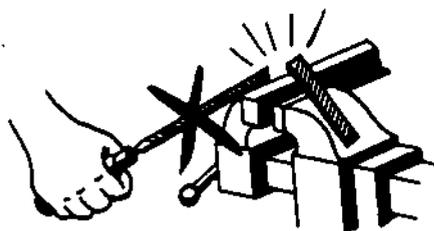

**Figure 1-84. Finishing Files**
f) The number of teeth to the centimetre or spacing varies slightly with the make of file. The spacing also changes with the length of the file, increasing proportionately as the length is increased. A file may have rough, coarse, bastard (medium coarse), second-cut, smooth-cut, or dead-smooth grade of teeth. For fast removal of metal on rough work, the rough, coarse, and bastard files are used. For finishing, the second-cut file (small teeth), the smooth-cut file (very small teeth), and the dead-smooth file (very fine teeth) are used. (See Figure 1-84.)